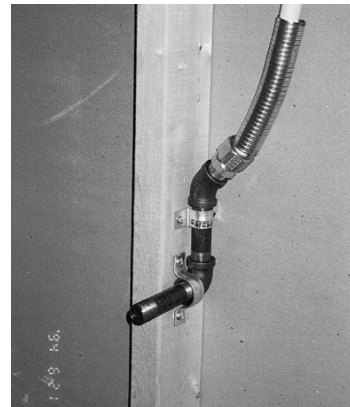

Fig. 4-38
c) Stub-outs (Fig. 4-38) – Gastite®/FlashShield™ CSST connections to stub-outs fabricated from approved fuel gas piping materials.